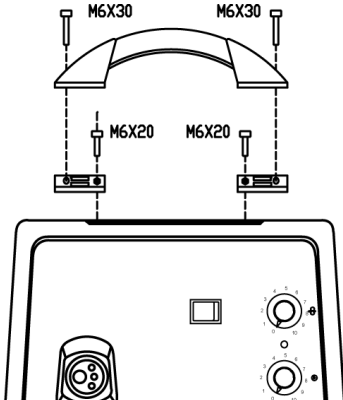

Figure 3. Handle Installation
4. With a flat tip screwdriver, securely tighten both screws. (see Figure 3)